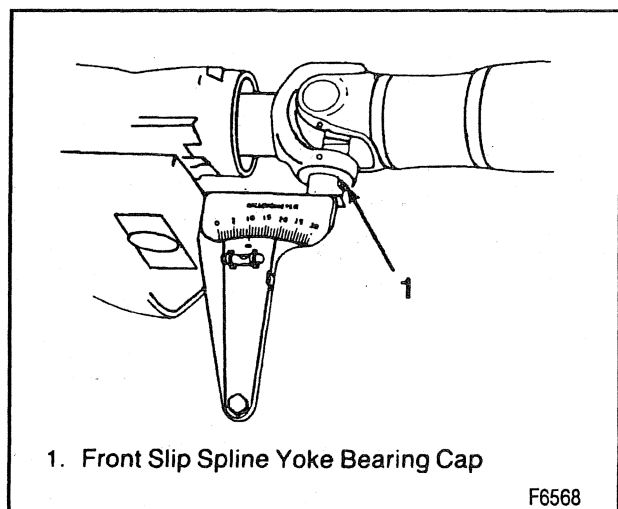

Figure 27—Measuring Front U-Joint Working Angle
2. Rotate the propeller shaft 90 degrees and place the inclinometer on the front slip spline yoke bearing cap (figure 27). Center the bubble on the sight glass and record the measurement.